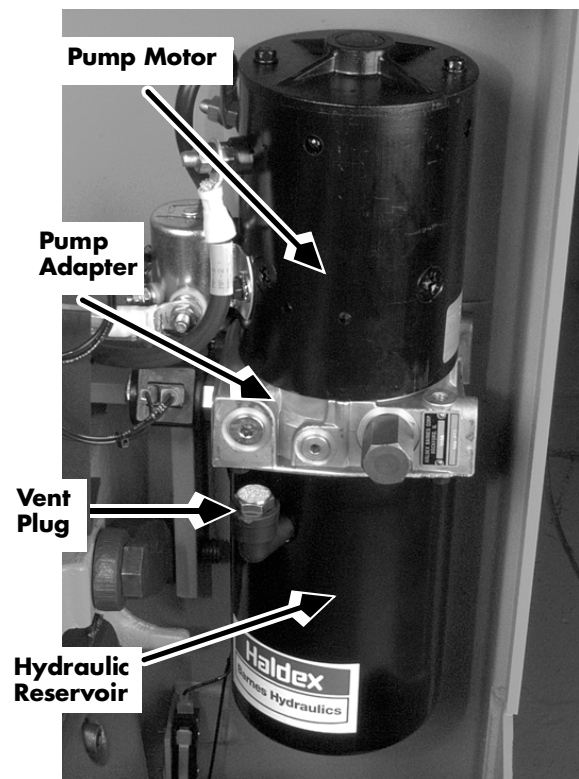

Figure 6-58: Hydraulic Unit
3. Remove and tag all wires and cables connected to the pump motor. See Figure 6-58.
3. Fill the reservoir with the specified hydraulic fluid. See "Lubrication Equivalency Chart" on page 7-2. Use a funnel with a flexible neck. Fill the reservoir only until the fluid is visible at the bottom of the vent plug elbow. See Figure 6-58. Use up to 1.5 quarts (1.41 liters).
4. Install the vent plug. See Figure 6-58.